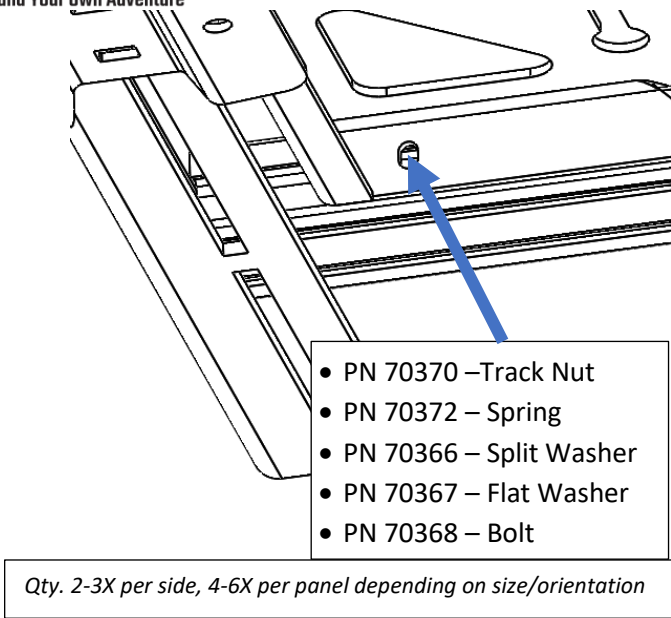

Figure 6: Flooring Panel Fastening Technique (Underside)
6. Slide track nuts into the desired installation position on cross bar. Use flooring panel to space track nuts appropriately. Tighten down using  $\frac{1}{4}$ "-20 hardware. (Reference *Figure 5* - *Figure 6*).